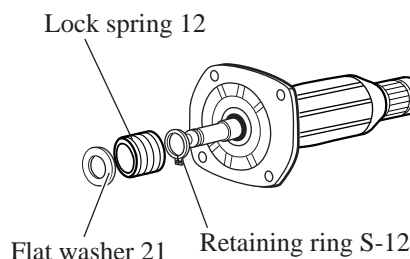

Fig. 2A
- (2) Assemble retaining ring S-12 to armature shaft. And then, assemble lock spring 12 and flat washer 12 to armature shaft as illustrated In Fig. 2A.